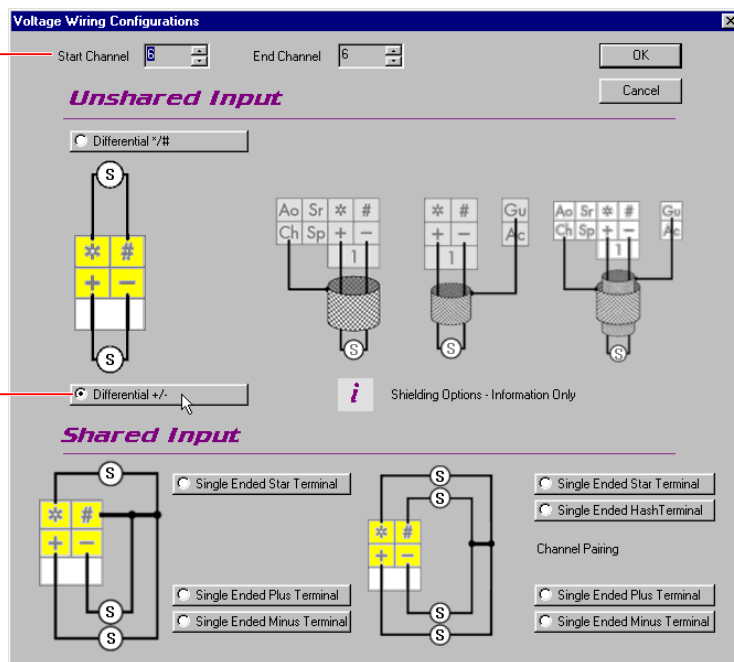

FIGURE 56 Defining channel 6 for voltage measurement
- In the **Wiring** column of **R2**, click the Configure button . The Voltage Wiring dialog box opens for row 2 (Figure 56).
- Leave the **Differential +/-** configuration selected (Figure 56) and click **OK**.